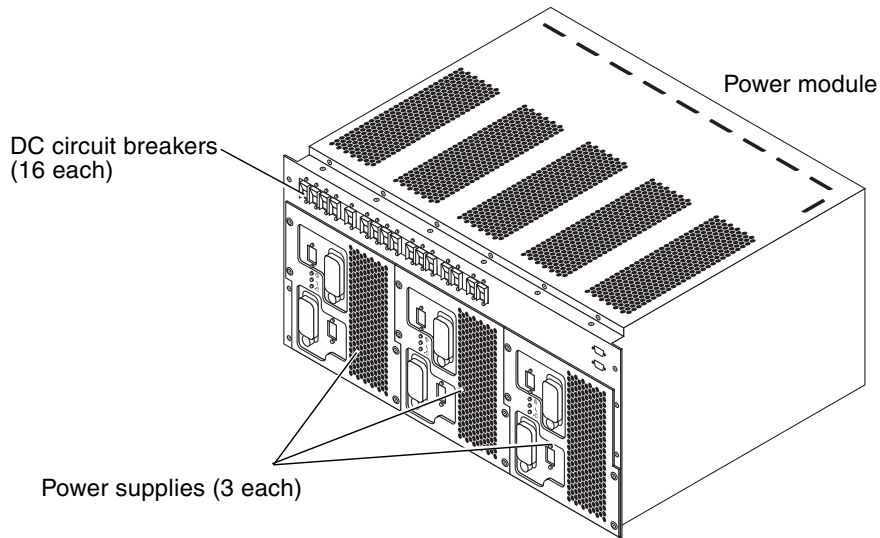

FIGURE 2-6 Circuit Breakers and Power Supplies
2. Ensure that all DC circuit breakers at the front and rear power modules are in the On position (FIGURE 2-6).